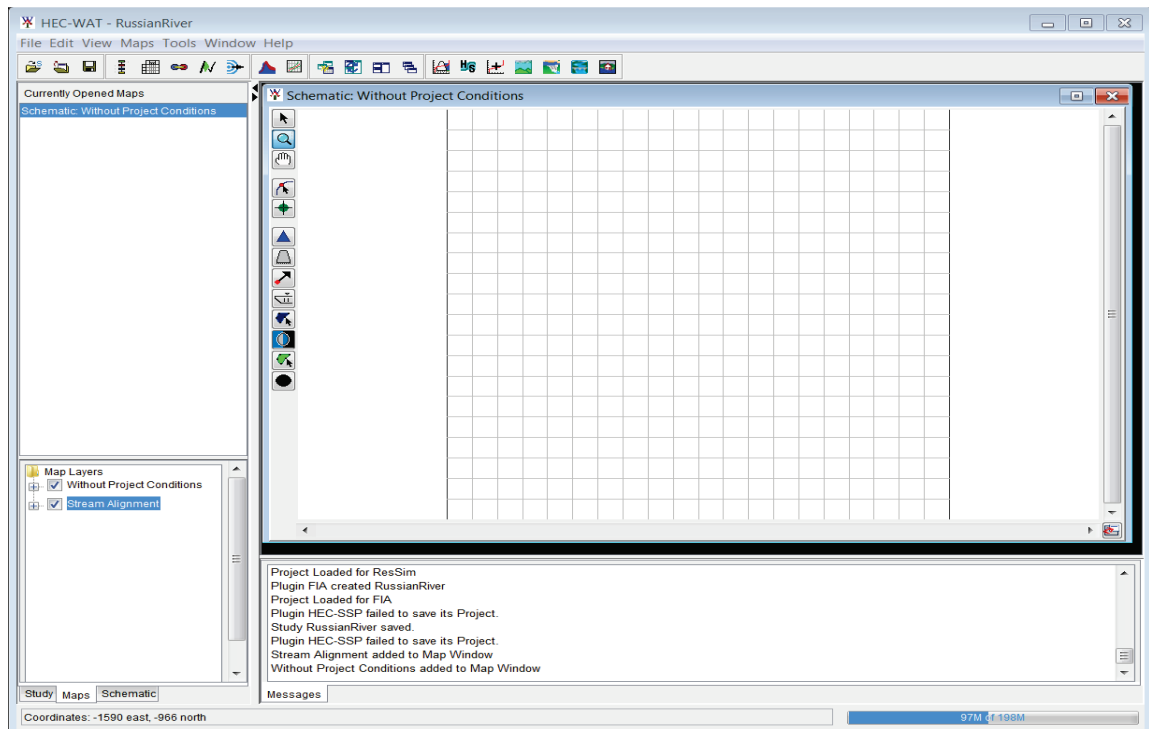
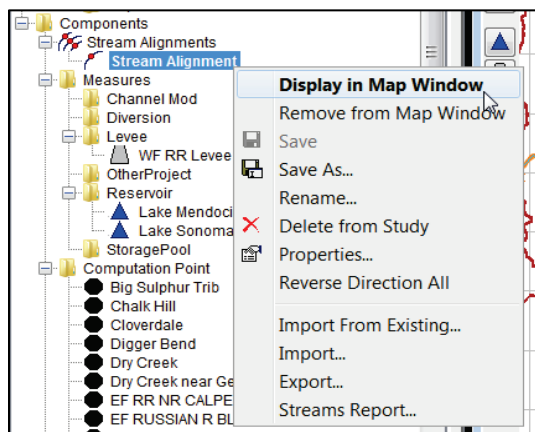

Figure F.3 HEC-WAT Main Menu – Maps Tab
**Figure F.8** Import Stream Alignment Dialog Box – Example Shapefile
1. From the HEC-WAT main window (Figure F.3), from the **Maps Tab**, from the **Map Layers** tree, right-click on *Stream Alignment* (Figure F.4). From the shortcut menu, click **Import**.
- From the **Database Field Name** list (Figure F.8), the user needs to select the field name in the attribute file that contains the names of the streams - **Name**. Once a field name is selected, the table below will populate with the streams contained in the shapefile. If there is an issue with any of the stream segments the checkbox in the **Import** column (Figure F.8) will not be selected. This means the stream segment is not continuous and will not be imported.
6. **Gap Tolerance** (Figure F.8) is used when stream segments are not continuous and the user wants HEC-WAT to connect the segments via the gap tolerance. The gap tolerance units are based on the selected shapefile units (i.e., shapefile units is feet, the gap tolerance will be in feet). To set the gap tolerance, select **Gap Tolerance** and enter a value in the box. Recommended that users enter one (1) for the unit of tolerance to connect. The value entered can also be fractional so for units that are in large units of distance. For example, a gap tolerance of .001 might be used for a shapefile file that has units in miles.
7. Click **Reverse Direction** (Figure F.8). The flow direction in the *RR\_StreamAlignment.shp* shapefile is not correct. So instead of fixing the issues with ArcMap® (ESRI GIS software), the user can perform the **Reverse Direction** procedure on the system of streams to correct flow direction.
8. Click **Import**, the **Import Stream Alignment** dialog box will close (Figure F.8). Once the import of the stream alignment is completed, a message window will appear letting the user know that the stream alignment imported successfully. In the active **Map Window** the stream alignment appears (orange stream segments; green stream nodes and stream junctions).
After creating a stream alignment, the user can view the stream alignment; remove the stream alignment from an active map window; save the stream alignment; create a copy of an existing stream alignment; rename an existing stream alignment; delete an existing stream alignment; view an existing stream alignment's properties; reverse direction of all streams that make up a stream alignment; import a stream alignment from an existing HEC-WAT stream alignment (*stream.align*); import a stream alignment from a shapefile (Figure F.8); export an HEC-WAT stream alignment to a shapefile; and, view a list of all streams contained in a stream alignment. All of these tasks are accomplished through the stream alignment shortcut menu (Figure F.9). The stream alignment shortcut menu is available from the HEC-WAT main window (Figure F.3), click **Schematic Tab**, on the **Study Pane**, under the **Components** folder, under the **Stream Alignments** folder, and then right-click on an existing stream alignment.